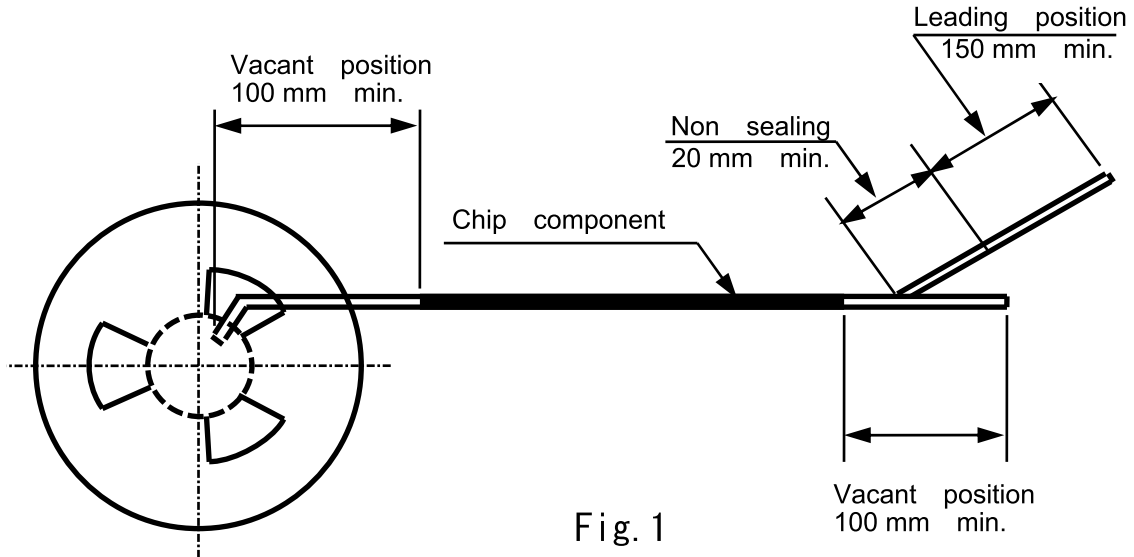

Fig. 1
- 6.4. Taping method..... Fig.1